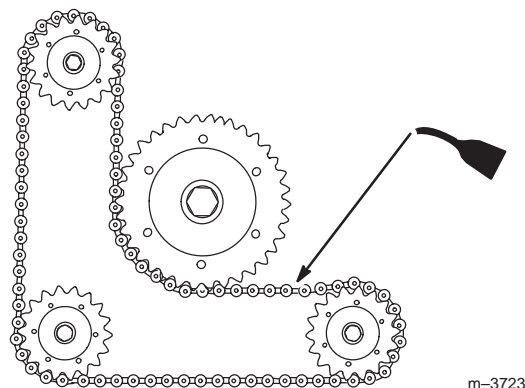

Figure 39
2. Coat the entire chain with oil and allow it to penetrate each roller (Fig. 39).